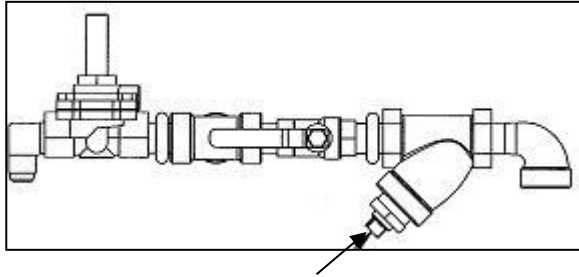

Fig. 4-2 – Remove gas strainer/filter at hex nut
5. Remove and clean gas strainer as shown in Fig. 4-2.